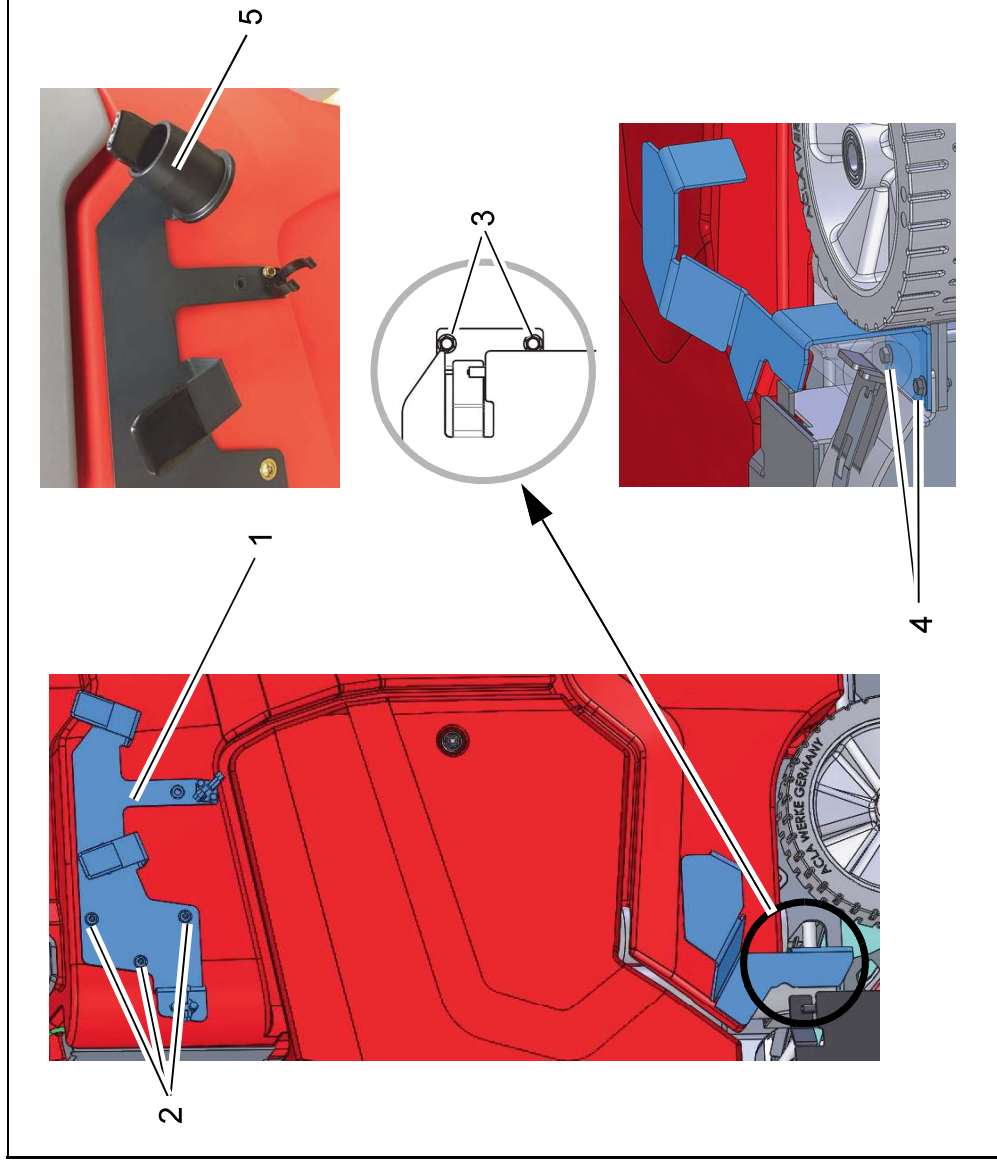

Fig. 2
1. Holder, pre-assembled (Fig. 2/1) fit to left side of machine with flanged button head bolts M8x12 (Fig. 2/2) as shown in the illustration. Maximum tightening torque 10 Nm.
2. Slacken M8x25 fastening screws of the side scraper a little (Fig. 2/3). Slide set-down plate for tool sideways until it comes up against the slackened screws (Fig. 2/4).
4. Fit sleeve to holder (Fig. 2/5).